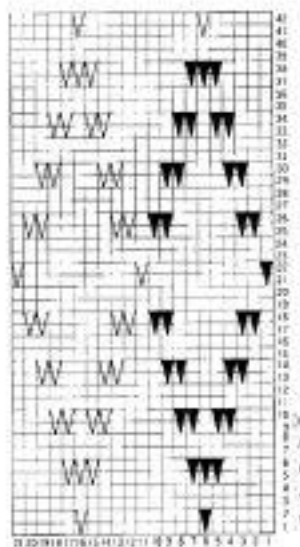
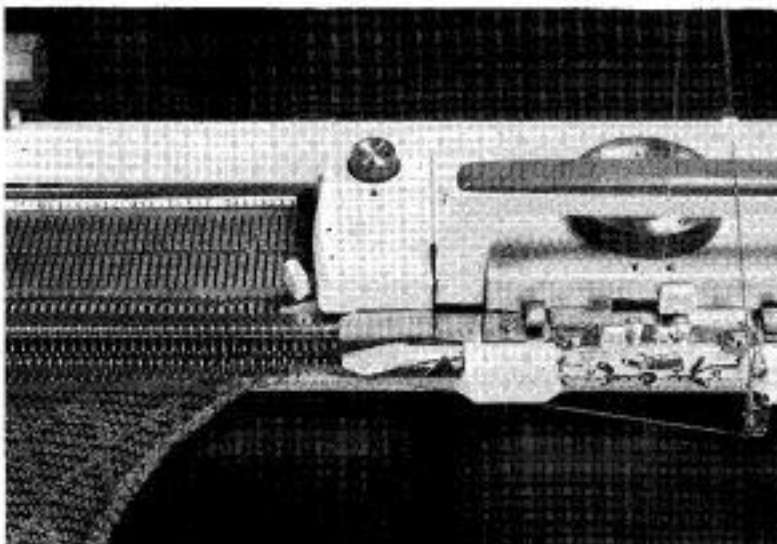

Fig. 148
Fig. 149
2. Referring to the Chart shown in Fig. 148, bring into Position (B) the needle opposite No. 6 on the Needle Selection Guide Strip as shown in Fig. 149, and knit with transparent thread represented by letter 'B' on the Chart. Fig. (148)